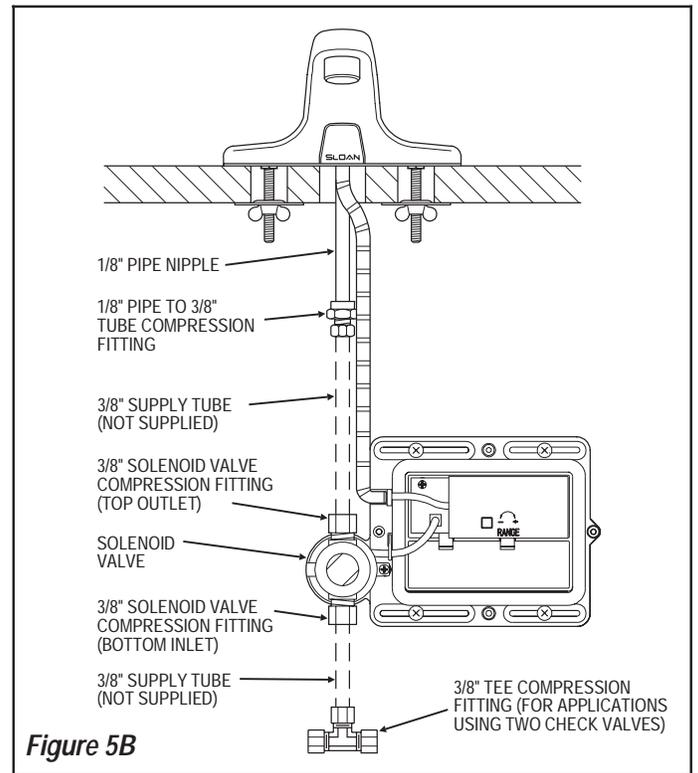

Figure 5B
**For Model 650** — Install the 1/8 inch Pipe to 3/8 inch Tube Compression Fitting onto the Spout's Pipe Nipple (refer to Figure 5B).